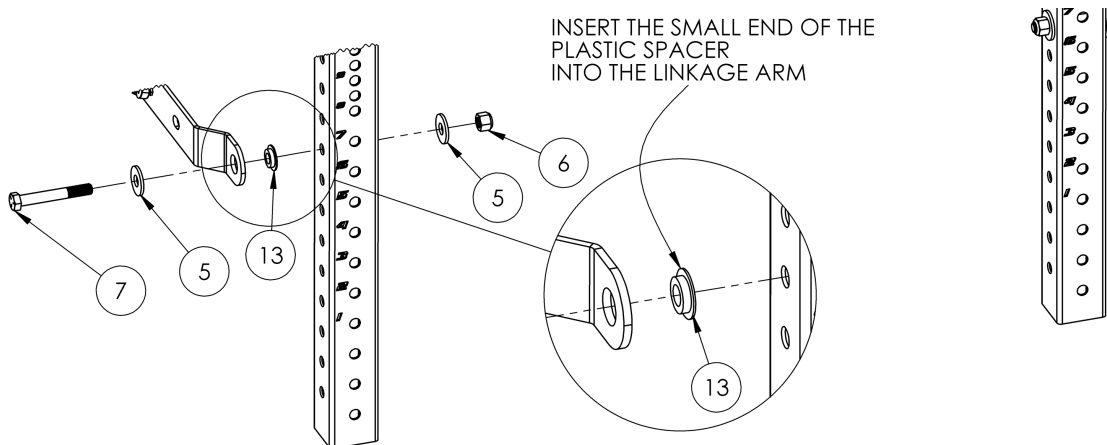

Figure 10: Bolting the Rack to the Lower Linkage Arms
3. Bolt the lower linkage arm on the upright between numbers 6 and 7 using the 5/8" x 4-1/2" hex bolt (7), two 5/8" flat washers (5), one plastic spacer (13), and one 5/8" locknut (6) (**Figure 10**). Tighten to be snug but do not overtighten. Repeat this on the other side.